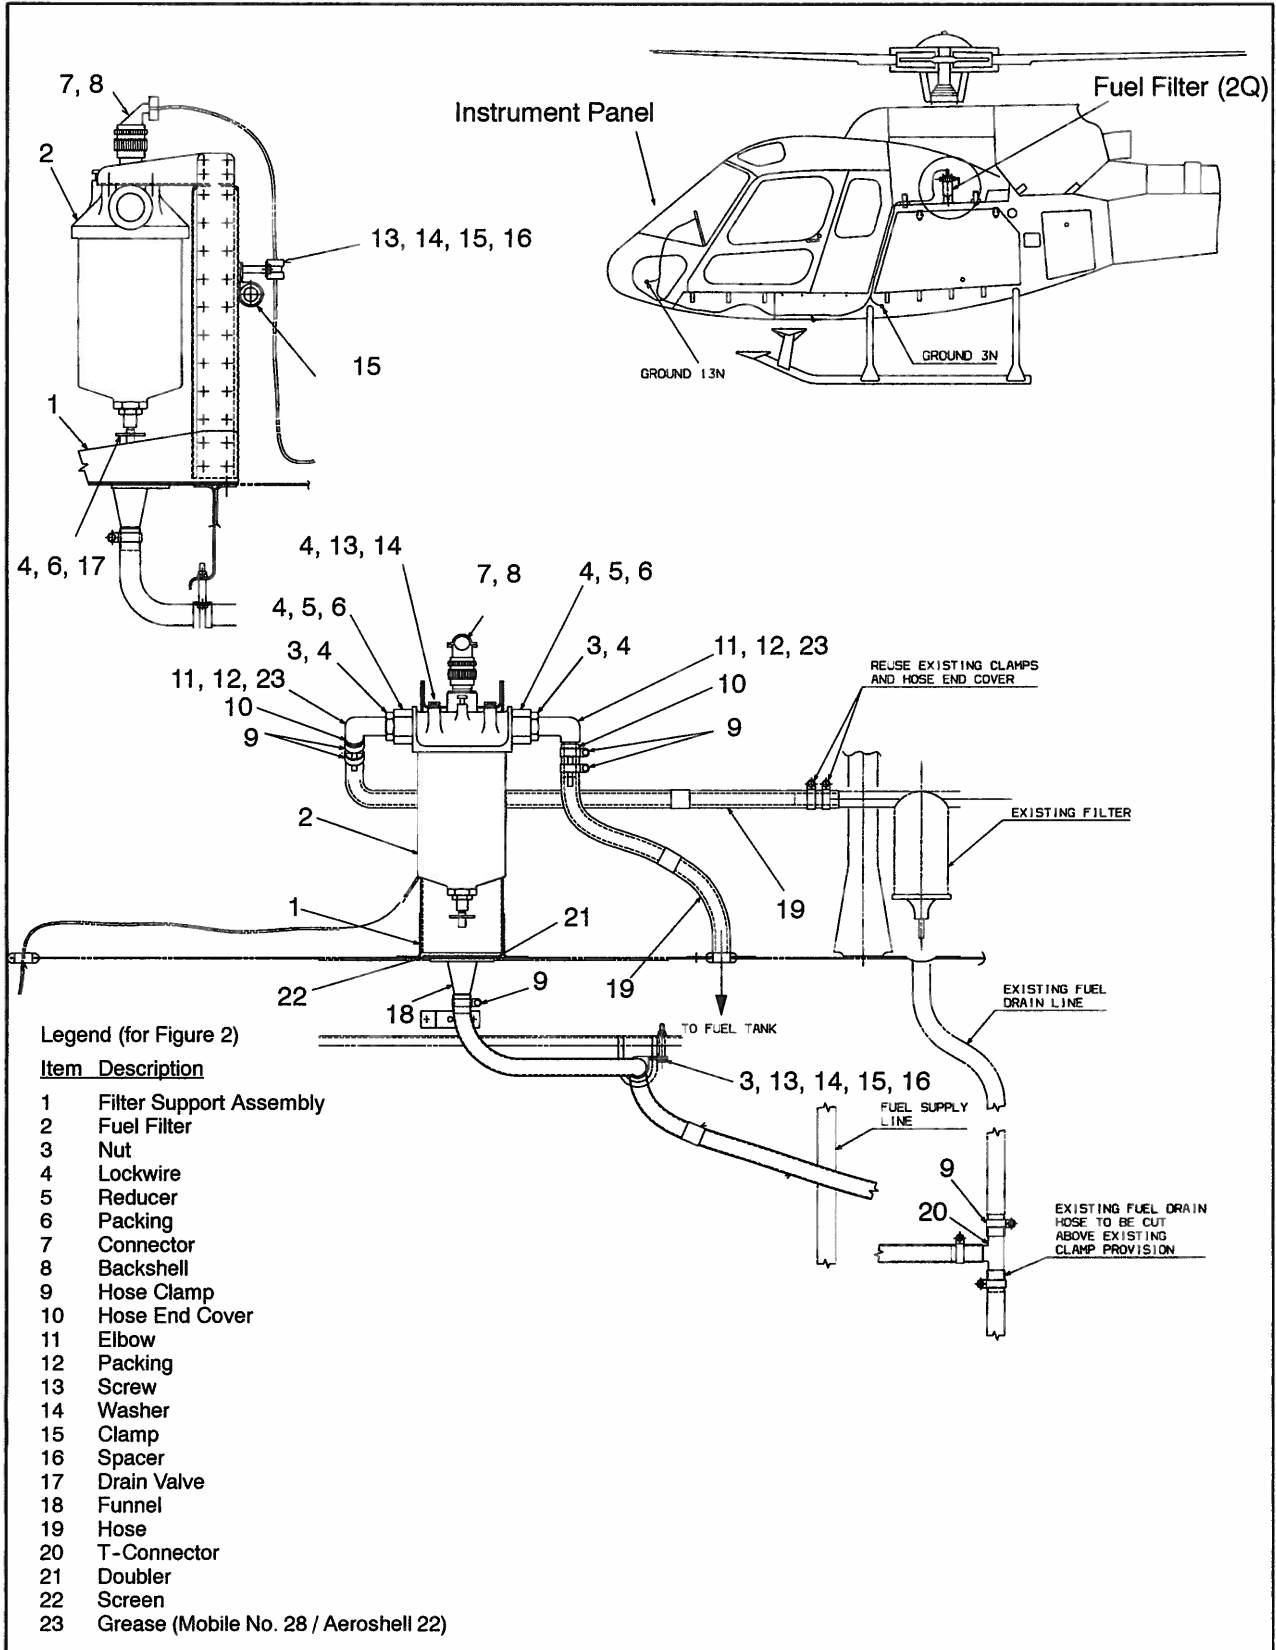

Figure 2 Airframe Fuel Filter Installation
1) FUEL FILTER (Refer to Figure 2)
- a) Disconnect hose clamps (9, 4 places) from both sides of the fuel filter (2) and slide hose end covers (10) from elbows (11). Retain hose clamps (9).
- c) Position hoses (19) out of working area.
- d) Disconnect connector (7) and backshell (8) from fuel filter (2) and position wire out of working area.
- e) Remove lockwire (4), screws (13, 3 places), and washers (14, 3 places) that secure the fuel filter (2) to top of filter support assembly (1).
- f) Remove fuel filter (2). Retain screws (13) and washers (14) for reinstallation.
- a) Position fuel filter (2) into filter support assembly (1) and secure using previously removed screws (13, 3 places), and washers (14, 3 places). Torque screws to required specifications and secure using lockwire (4).
- b) Repack elbow (11, 1 place) on LHS of fuel filter (2) with new packing (6, 1 place). Reconnect hose (12) to elbow (4) and secure reusing hose clamps (6, 2 places).
- c) Repack elbow (11, 1 place) on RHS of fuel filter (2) with new packing (6, 1 place). Reconnect hose (19) to elbow (11) and secure reusing hose clamps (9, 2 places).